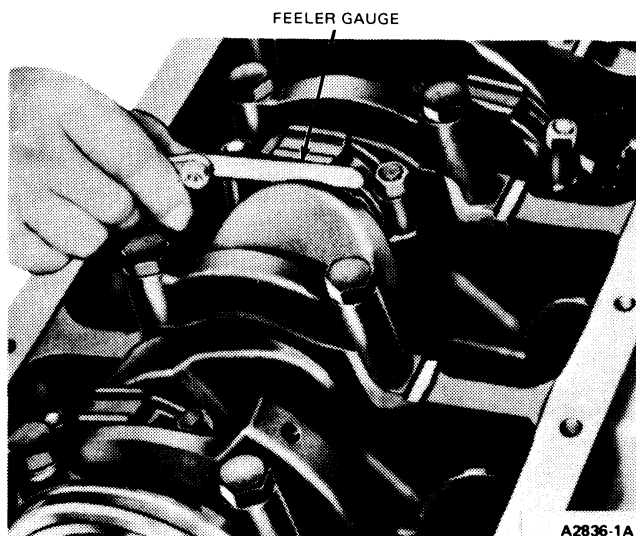

FIG. 45 Checking Connecting Rod Side Clearance
8. After the piston and connecting rod assemblies have been installed, check the connecting rod side clearance on each crankshaft journal (Fig. 45).